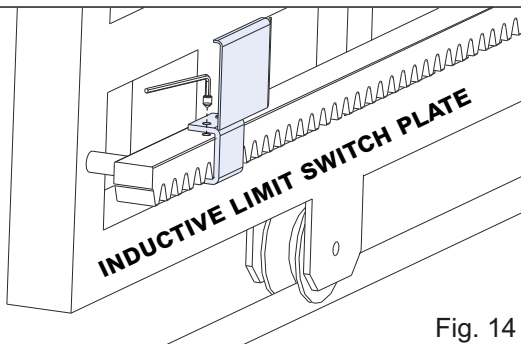
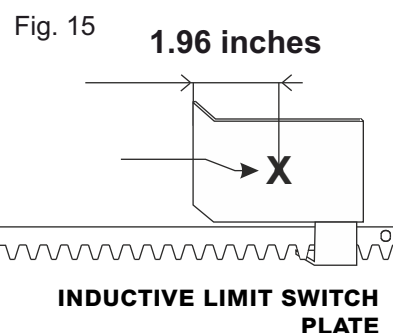

Fig. 14
Fig. 15
- **INDUCTIVE LIMIT SWITCH:** place the plate (Fig. 14) on the rack according to the desired gate stop position; fix the plate on the rack using the screws. Bring the inductive limit switch opening plate (indicated by an arrow on the limit switch) in correspondence with point «X» of the plate on the rack (1,96 inches from the folded side of the plate - Fig. 15).
- **INDUCTIVE LIMIT SWITCH:** place the plate (Fig. 14) on the rack according to the desired gate stop position; fix the plate on the rack using the screws. Bring the inductive limit switch closing plate (indicated by an arrow on the limit switch) in correspondence with point «X» of the plate on the rack (1,96 inches from the folded side of the plate - Fig. 15).